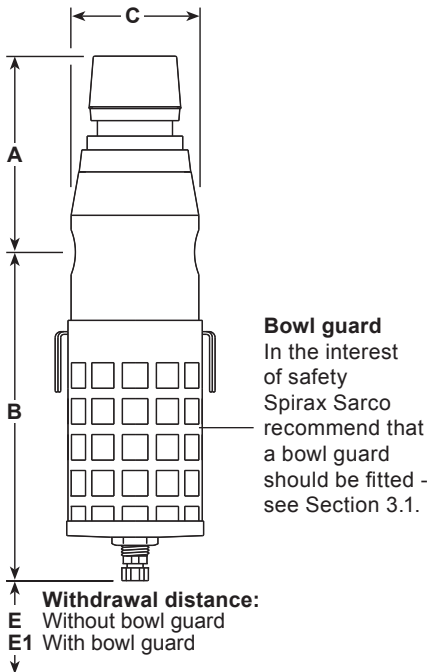

Fig. 2
- 3.3.2 Adequate space should be provided around the unit to allow easy access for routine servicing requirements (see Figures 2 and 3 for withdrawal distances).